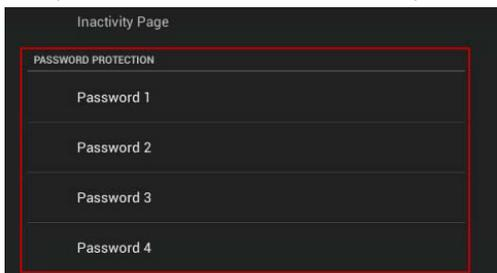

**FIG. 32** Inactivity window
1. In the *G5 Settings* page, press *Inactivity* to open the *Inactivity* window (FIG. 32):